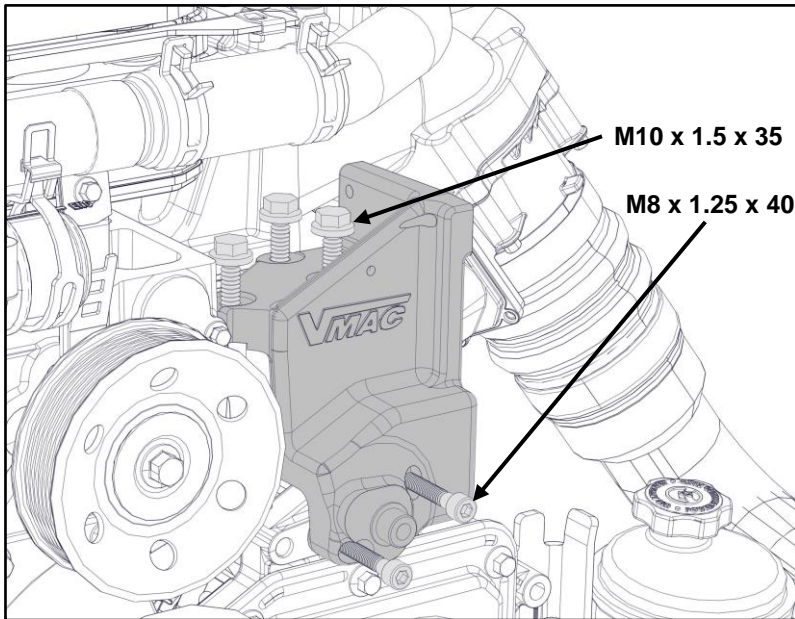

Figure 3.2 – Main Bracket Installation
- Position the VMAC main bracket onto the driver's side of the engine in the location shown (Figure 3.2).
- Apply Blue Loctite to the three supplied M10 x 1.5 x 35 flange head bolts and install them finger tight through the holes in the top of the bracket into the matching holes on the engine. **Do not torque.** (Figure 3.2)
- Apply Blue Loctite to the two supplied M8 x 1.25 x 40 socket head bolts and install them finger tight through the holes in the front of the bracket into the matching holes on the engine timing housing. **Do not torque.** (Figure 3.2)
- Torque the three top M10 flange bolts to 41 ft-lb (Figure 3.2).
- Torque the two front M8 socket head bolts to 19 ft-lb (Figure 3.2).